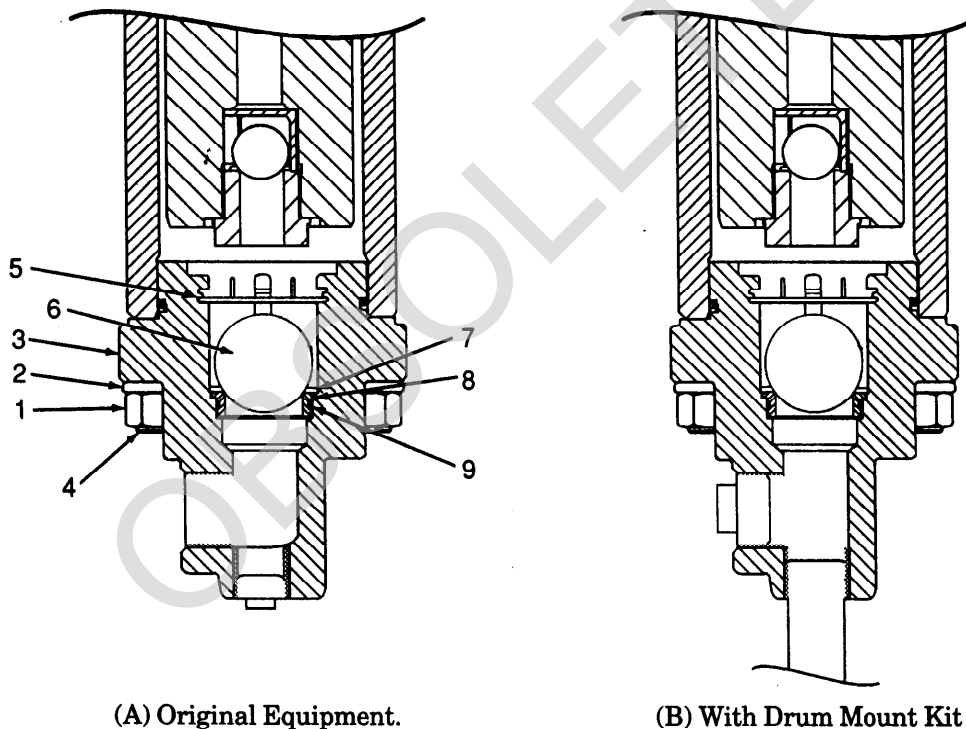

Figure 1- Cutaway View, Siphon Housings. .
The drum mounting kit allows a Nordson® Model 180D or 360D pump to be mounted directly on a 55 gallon drum of coating material. The drum mount kit allows the pump inlet to be immersed in the coating material and is the best method for pumping primers and heavy bodied paints and coatings. The drum cover reduces coating contamination and solvent loss. The conversion kit requires minor modification of the pumps, which mainly involves replacement of the siphon housing. See Figure 1 for comparison.
4. Slide the siphon housing (3) off the mounting screws (4) on the pump.
5. Remove the ball retaining clip (5), ball (6), seat retaining ring (7), and ball seat (8) from the pump. Remove and discard O-ring (9)
6. Refer to Figure 2. Apply a light coating of O-ring lubricant to the O-rings supplied with kit, install O-ring (8) on ball seat (8, Fig 1). Install O-ring (6) and back-up ring (10, where used), into the bottom inlet siphon housing (7).
**CAUTION: Ball (6) and ball seat (8) should be replaced as a pair. Do not use an old seat with a new ball, or an old ball with a new seat. Replace as a pair.**
7. Install the ball seat, seat retaining ring, ball, and ball retaining clip as removed from the old siphon housing into the new siphon housing (7).
8. Slide bracket (3) onto pump bolts (4:1 and 8:1 pumps) or studs (all others).
9. Slide siphon housing (7) onto screws, replace M16 nuts and lock-washers removed in step 3 above.
10. Slide the bracket (3) up to the base of the pump upper gland housing.